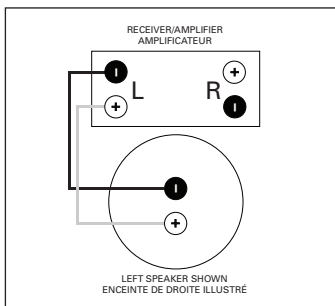

Fig. 8a
- a) Connect speaker cable as outlined on page 6, Fig. 8a, in section on Rectangular Speakers.